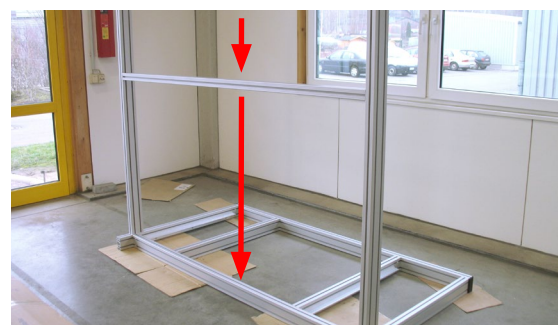

fig. 3.1-17
Step ⑪ A long frame part **A2c** is inserted into the front guide groove (starting from the operator) between the side stands down to the frame base and then screwed in using the profile connectors (**fig. 3.1-17**). Please ensure that the cross-pieces of the profile connectors face to the back.